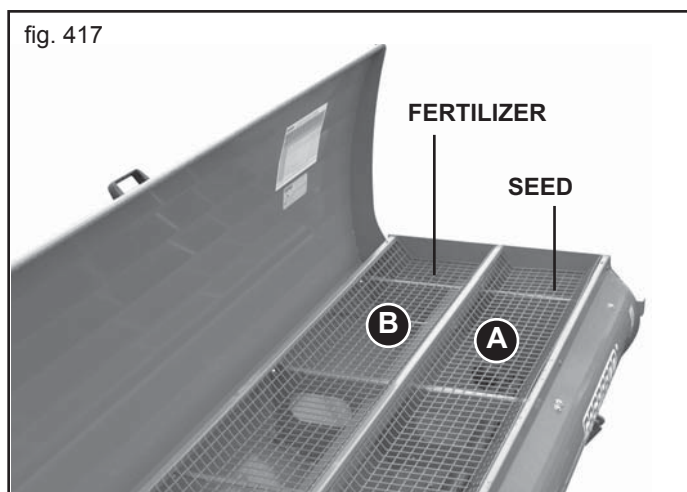

fig. 417
The COMBINED distribution hopper is divided into two compartments (Fig. 417): the rear one (A) for the seeds and the front one (B) for the fertilizer. The fertilizer compartment is also fitted with a grille to sift any foreign bodies and lumps that could damage the dosing mechanism. Each compartment has its own controls for the adjustment of seed and fertilizer distribution rates.